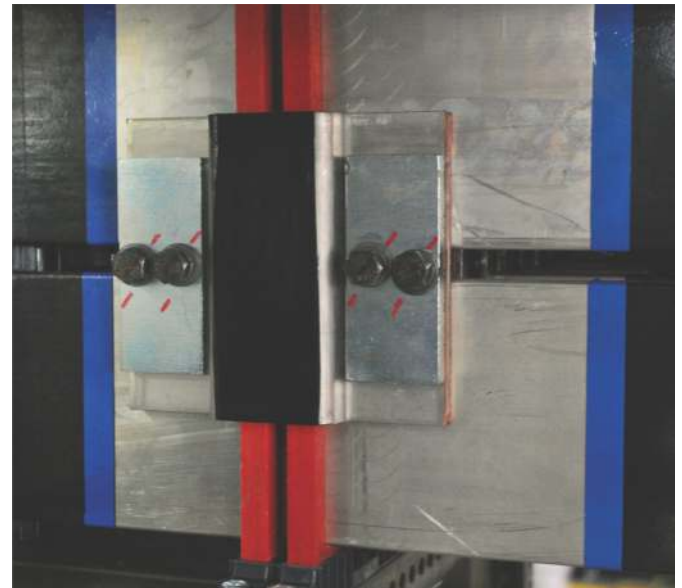

Figure 18 - Busbar joining
6. Tighten all electrical connections, except Hole-less Horizontal busbar joints (HBB), with a torque wrench to the torque values as mentioned in table no.3. For Hole-less HBB joints, torque values to be as mentioned in table 3A Figure18.